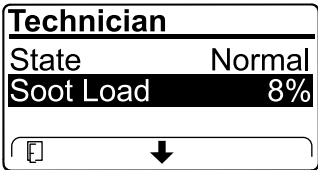

Figure 41
- View the soot load which is measured as the percentage of soot in the DPF(Figure 41); refer to the soot-load table.